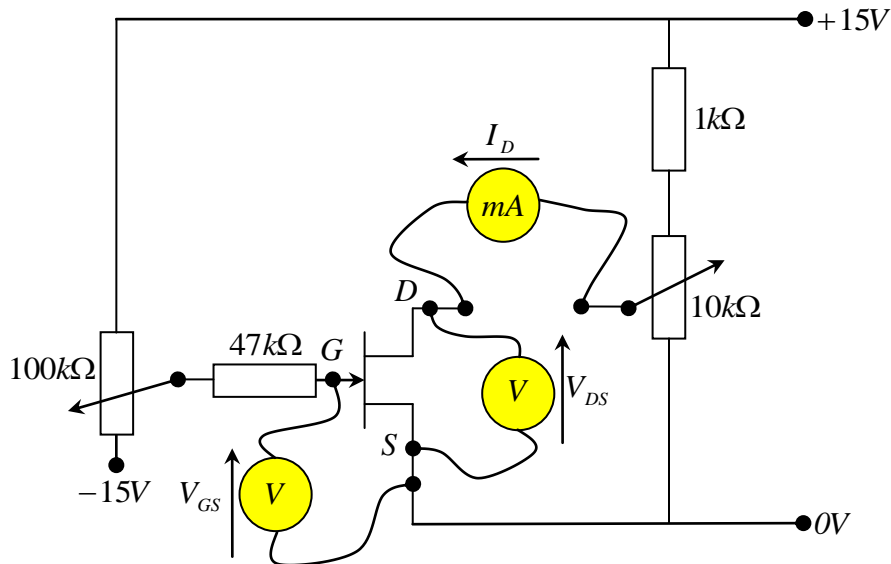

Figure 2.
We will analyze these characteristics for an N-channel JFET connected in the common-source mode as shown in Fig. 2.
- Assemble the circuit as shown in Figure 2